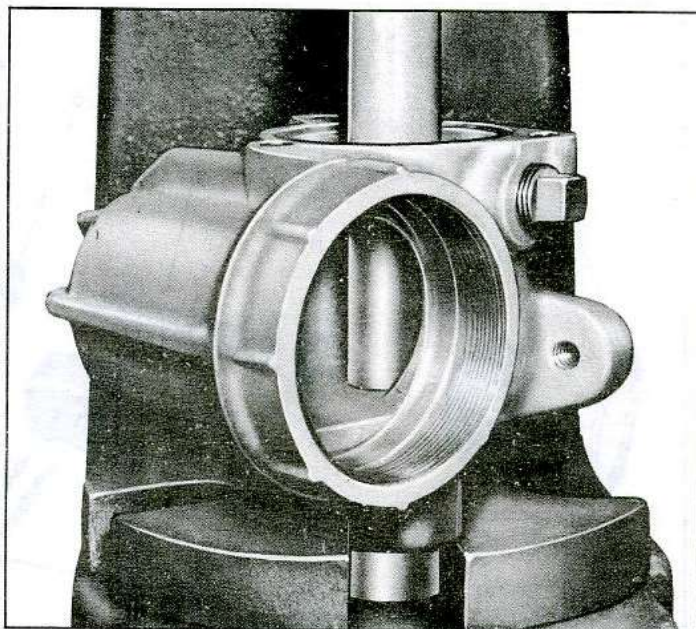

Fig. 11—Removing Sector Shaft Bushing
1. Support steering gear housing in an arbor press and press sector shaft bushing from housing with Tool J-8366-2, inserted from lower end of housing (fig. 11).